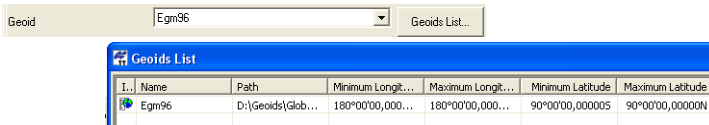

Figure 2-69. Set Grid Coordinates
3. Be sure that the desired geoid is selected and that it covers the work area (Click **Job Configuration ▶ Coordinate System** (Figure 2-69)).